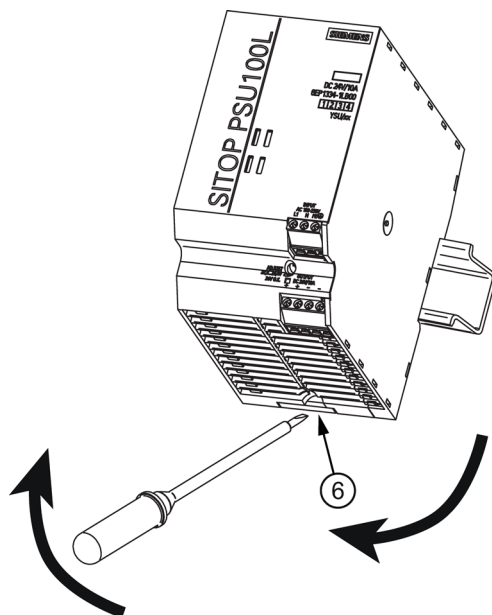

Figure 3-1 Removal (example, 6EP1334-1LB00)
To remove, pull up the slider ⑥ using a screwdriver (see Figure 3-1 Removal (example, 6EP1334-1LB00) (Page 17)) and disengage the device at the bottom edge of the standard mounting rail. Then you can remove the device from the upper edge of the standard mounting rail.